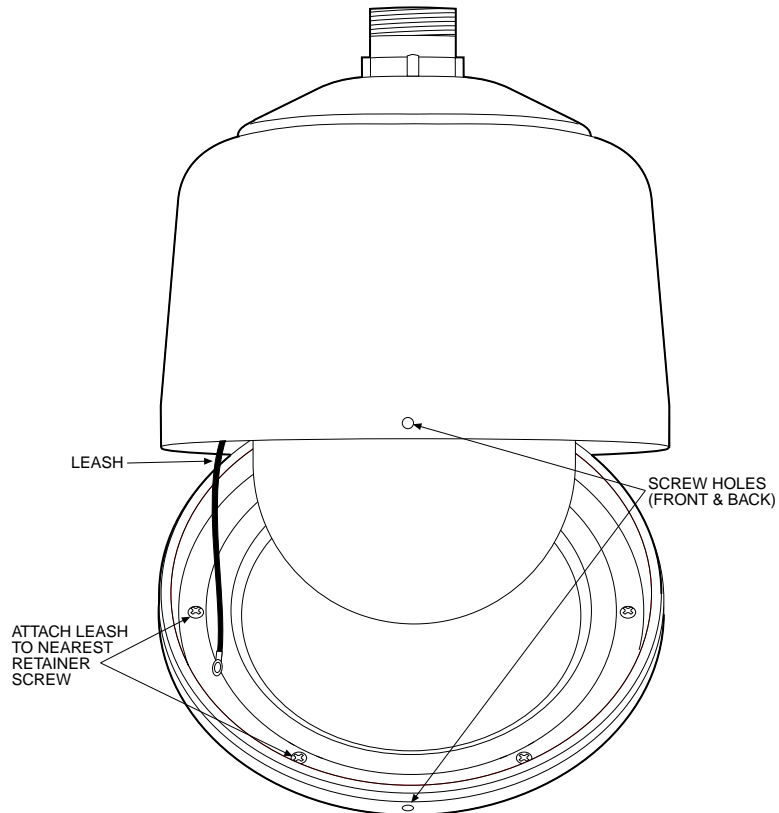

Figure 16. Lower Dome Installation, Pendant Models
8. Refer to Figure 16. Hanging down from the back box is a short cable (the trim ring leash). Hold up the lower dome near the back box so that the trim ring leash touches the lower dome. Line up the two screw holes in the trim ring of the lower dome with the two screw holes in the back box. Place a finger on the edge of the trim ring where the leash touches the lower dome.
9. Refer to Figure 16. Hanging down from the back box is a short cable (the trim ring leash). Hold up the lower dome near the back box so that the trim ring leash touches the lower dome. Line up the two screw holes in the trim ring of the lower dome with the two screw holes in the back box. Place a finger on the edge of the trim ring where the leash touches the lower dome.